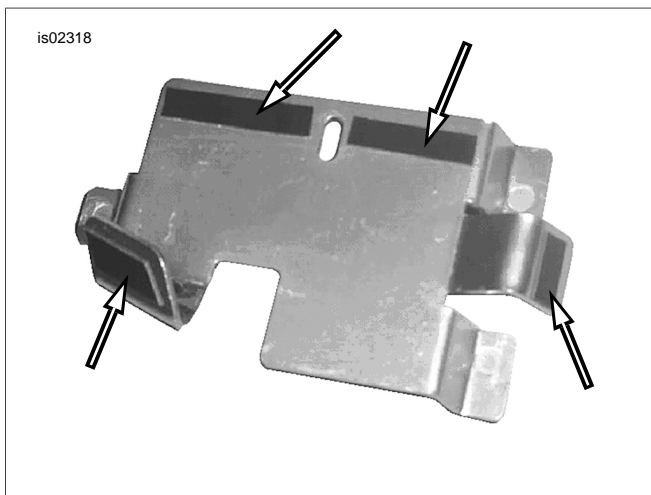

Figure 2. Acrylic Foam Tape Locations
7. See Figure 2. Locate the two-sided acrylic foam tape provided in the kit. Cut the tape strip. Peel the paper backing from **one** side of the tape strips, and place the tape in the four locations shown.